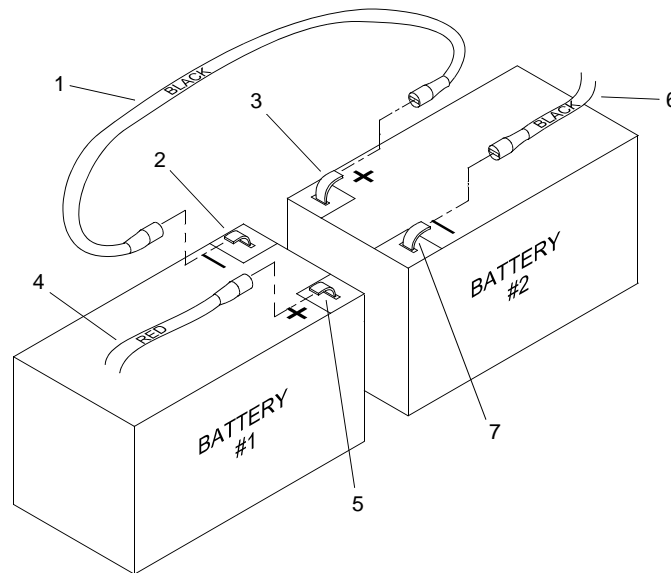

Figure 6. Fire Alarm Control Internal Batteries
4. Install black jumper wire (figure 6, item 1) between battery #1 negative terminal (figure 6, item 2) and battery #2 positive terminal (figure 6, item 3).
5. Connect red primary battery lead (figure 6, item 4) to battery #1 positive terminal (figure 6, item 5).
6. Connect black primary battery lead (figure 6, item 6) to battery #2 negative terminal (figure 6, item 7).